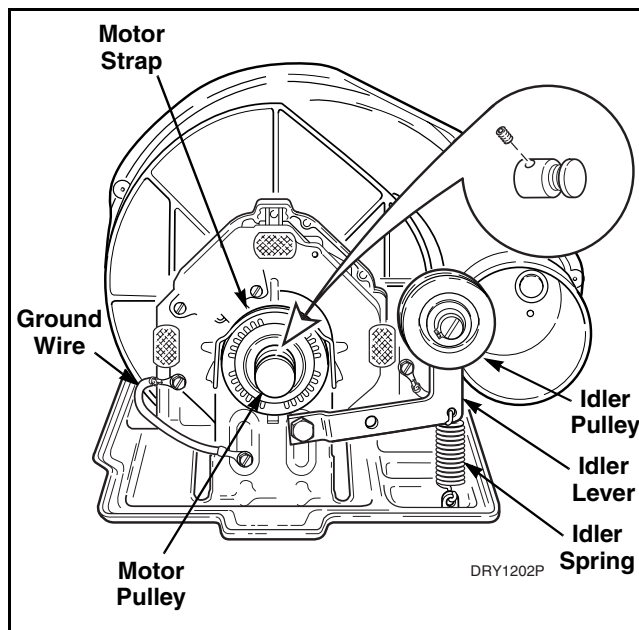

Figure 22
- f. Remove two motor strap assemblies holding motor in mounting bracket. Refer to *Figure 22*. Then lift motor out of mounting bracket.
NOTE: When replacing motor, motor switch location should be at 10 o'clock. Refer to *Figure 22*.
- Refer to *Figure 22* for motor and idler pulley removal.